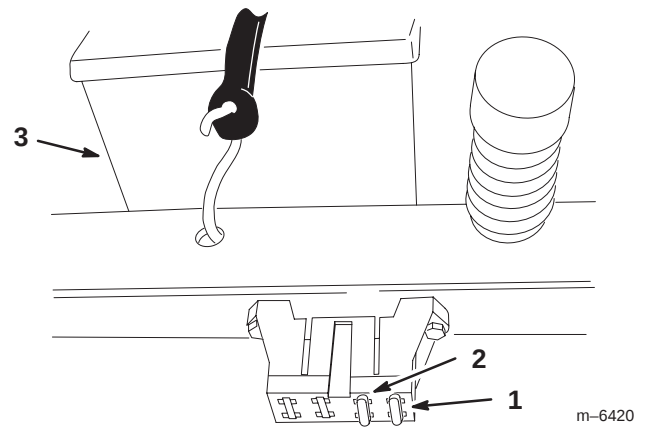

Figure 48
1. Raise the seat to gain access to the fuse holder (Fig. 48).
2. To replace a fuse, pull out on the fuse to remove it (Fig. 48).